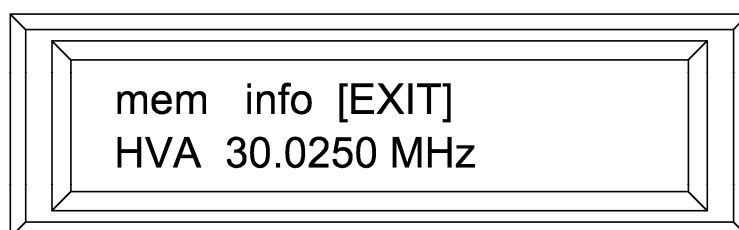
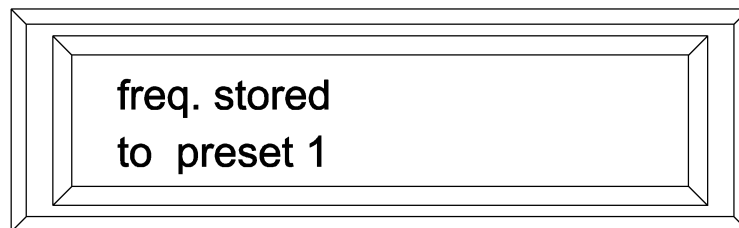
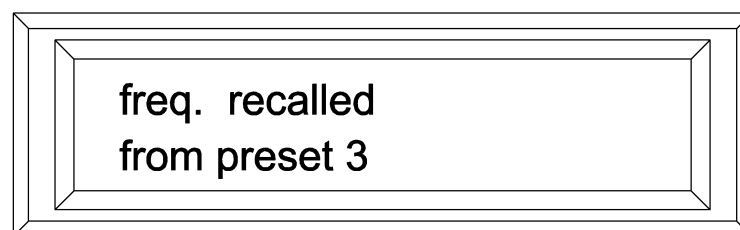

Figure 3.2. The menu function mode with the function EXIT selected.
Figure 3.11. Message after confirming a preset store command.
Figure 3.14. Message after confirming a preset recall command.
By using the “▲”, “■” and “▼” buttons we are able to control the menu functions. The menu starting screen is depicted in *figure 3.2*. The **exit** function is highlighted by using capitals and brackets “[EXIT]”.
For example, when starting from the clean menu screen of *figure 3.2* we have to press the “▼” button six times or the “▲” knob two times to select the **mem** (memory) function as is shown in *figure 3.6*.
- Step 1.** From the **receive** mode first enter the **menu** function by pressing the “■” button a few seconds, *figure 3.2*.
- Step 7.** Use the “▼” or “▲” buttons to go back to the **exit** menu (*figure 3.2*) and press the “■” button to go back to the normal receive mode or proceed with the **mem** or **info** submenu, for instance for storing the current frequency into a preset (described in *paragraph 3.6.5*).
The frequency change will be stored in non volatile memory only when you have gone back from the **menu** mode (*figure 3.2*) into the **receive** mode (*figure 3.1*) after this procedure !!!
- Step 2.** Make sure that the frequency in the display (*figure 3.2*) is the frequency which you want to be stored into a preset. If not adjust the frequency displayed as described in *paragraph 3.6.3*.
Step 8. Use the “■” button to confirm your selection of the preset number. The old preset value will be overwritten and the display from *figure 3.11* will be shown for two seconds before returning to the main menu of *figure 3.2*.
- Step 7.** Use the “■” button to confirm your selection of the preset number. Now the display from *figure 3.14* will be shown for two seconds before returning to the main menu of *figure 3.2*.